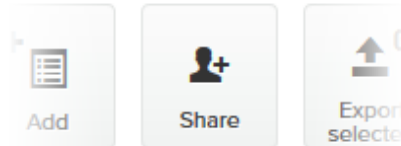

Figure 66. Plug-ins web page (Share button)
4. Click the **Share** button in the upper left-hand corner of the **Plug-ins** web page (Figure 66 \(page 121\)).